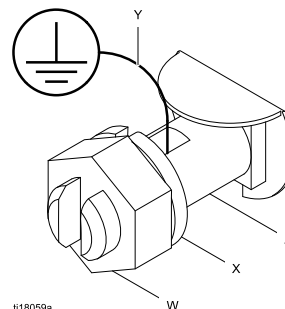

Figure 2 Ground the Pump
1. **Pump:** Use a ground wire and clamp as shown in Fig. 2. Graco Part No. 237569 Ground Wire is available separately. Loosen the grounding lug locknut (W) and washer (X). Insert one end of a 12 ga. (1.5 mm²) minimum ground wire (Y) into the slot in lug (Z) and tighten the locknut securely. Connect the other end of the ground wire to a true earth ground. See Fig. 1.